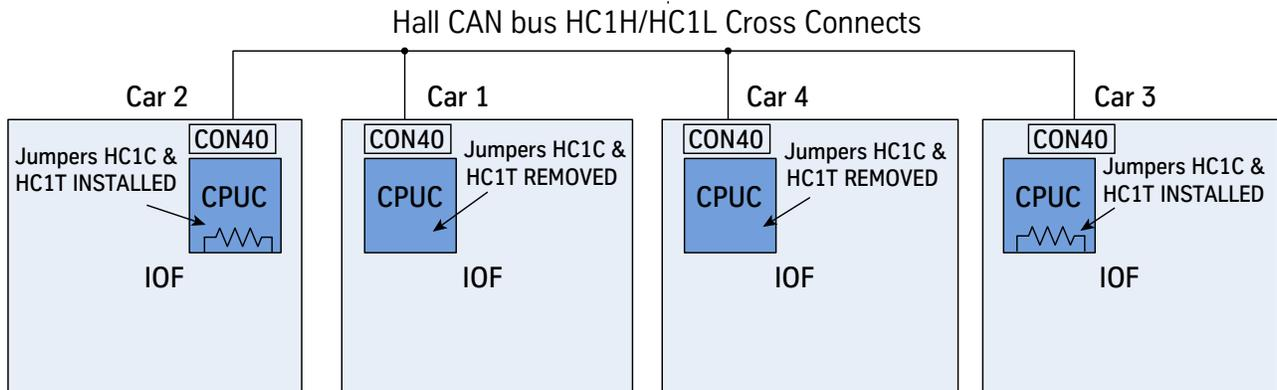

Figure 2 - Hall CAN Termination
2. Verify the following configurations. See Figure 2 on page 4-9.